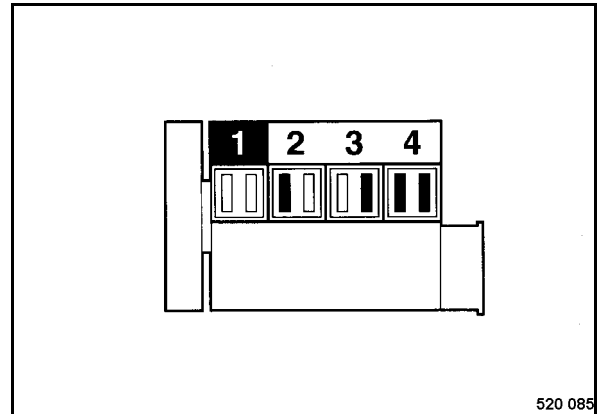

Fig. 81
- Crank the engine with the starter until both valves on cylinder 1 (Fig. 81) are “overlapping”.
The valves marked black (Fig. 81) can be checked and adjusted.